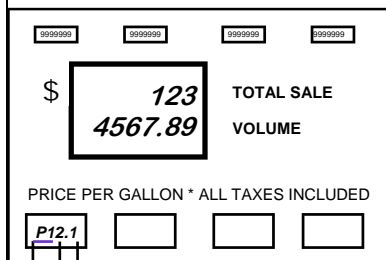

Figure 4
2. Press the button again to read the Volume totals for Product 1. The displays appear as in Figure 4 with P12.1 showing in the price per gallon window to indicate the first Volume total for Product 1.